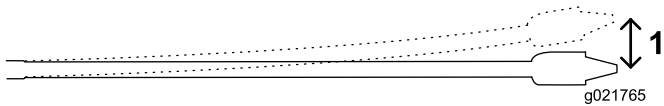

Figure 52
The 3 m (10 ft) pipes used on this machine can flex to an 8% pitch over the length of the pipe; this equates to a bend of no more than 20 cm (8 inches) off a straight path (Figure 52).
- Insert the first 3 m (10 ft) of drill bit/pipe into the ground with no steering. The end of the drill bit will be 76 cm (30 inches) deep (Figure 52).